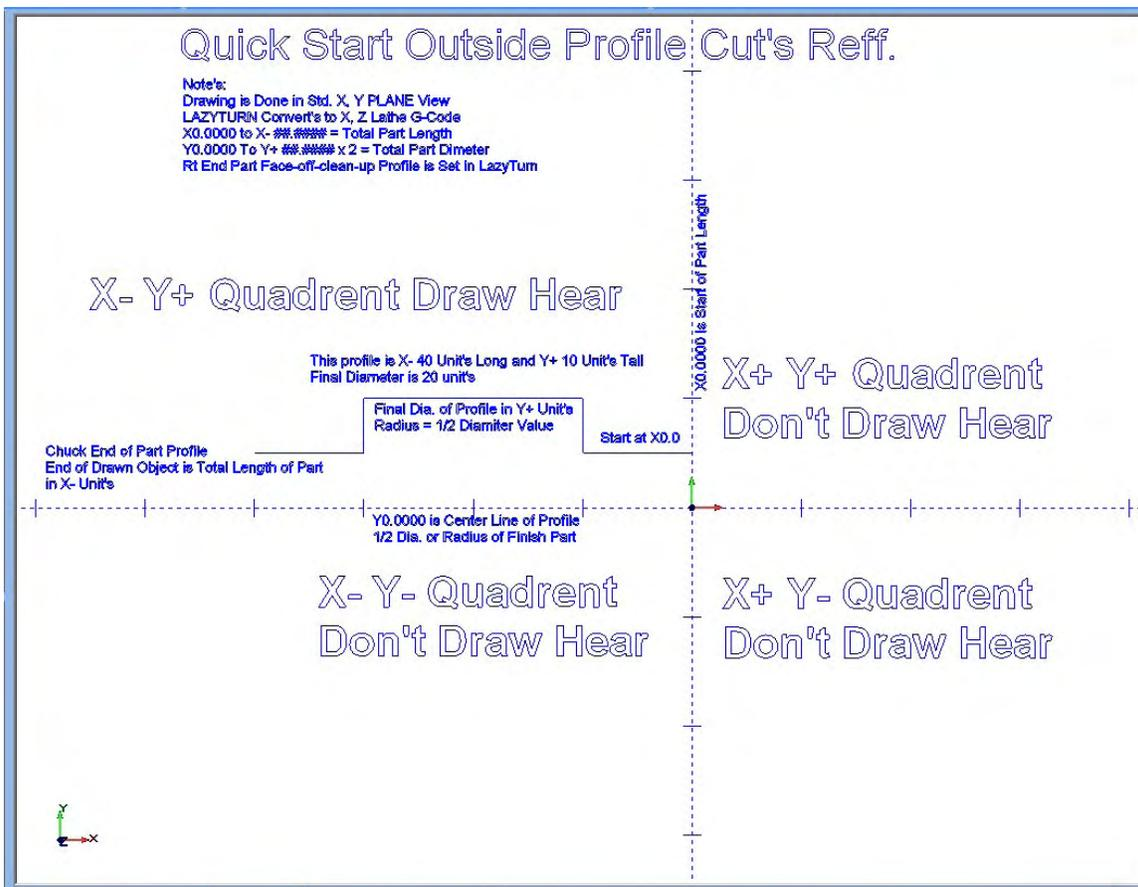

FIGURE 3.5.1
- 3.8 DO NOT ...DO NOT draw, extend any line, any part of the profile, leave any line / dot / pixel / or what ever below the $Y=0$ which represents the center line. See FIGURE 3.5.1